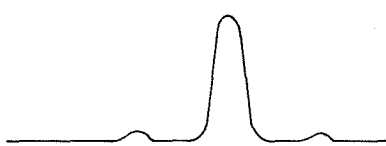

Figure 8. Sin^2 pulse showing a leading and a trailing reflection or echo.
3. Reflections. Since the sin^2 test signal can be transmitted (during the vertical blanking interval), the nature of reflections caused by multi-path signals can be measured. (See Figure 8.)